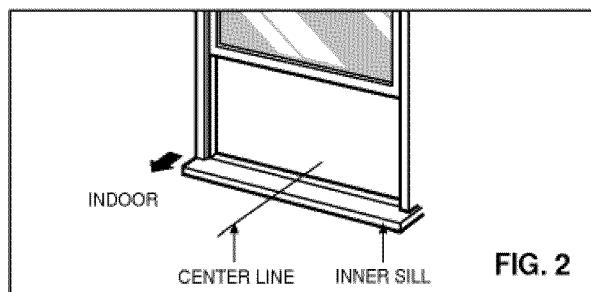

FIG. 2
- 2 Mark center line with pencil on the center of the inner sill, as shown in FIG. 2.